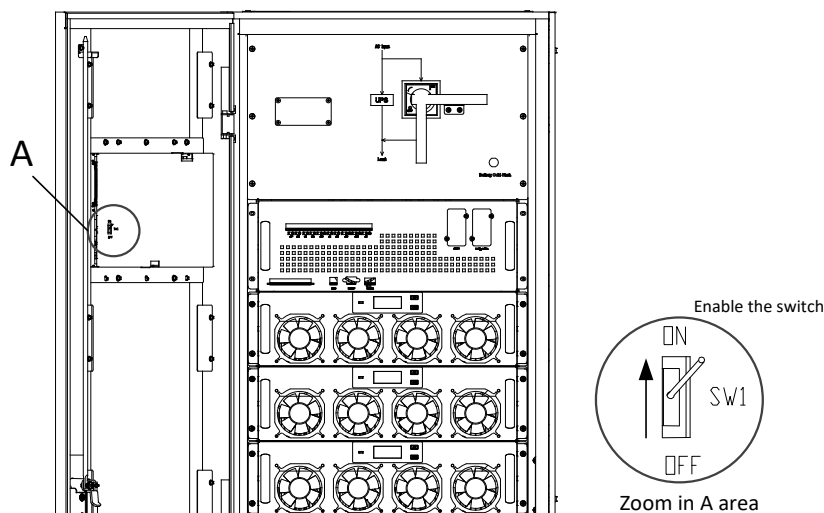

Fig.5-3 Enable the switch
- Press and hold the **BYP** key on the operator control panel for longer than two seconds and the system transfers to bypass mode. This needs to enable the switch behind the front door. See Fig.5-3.